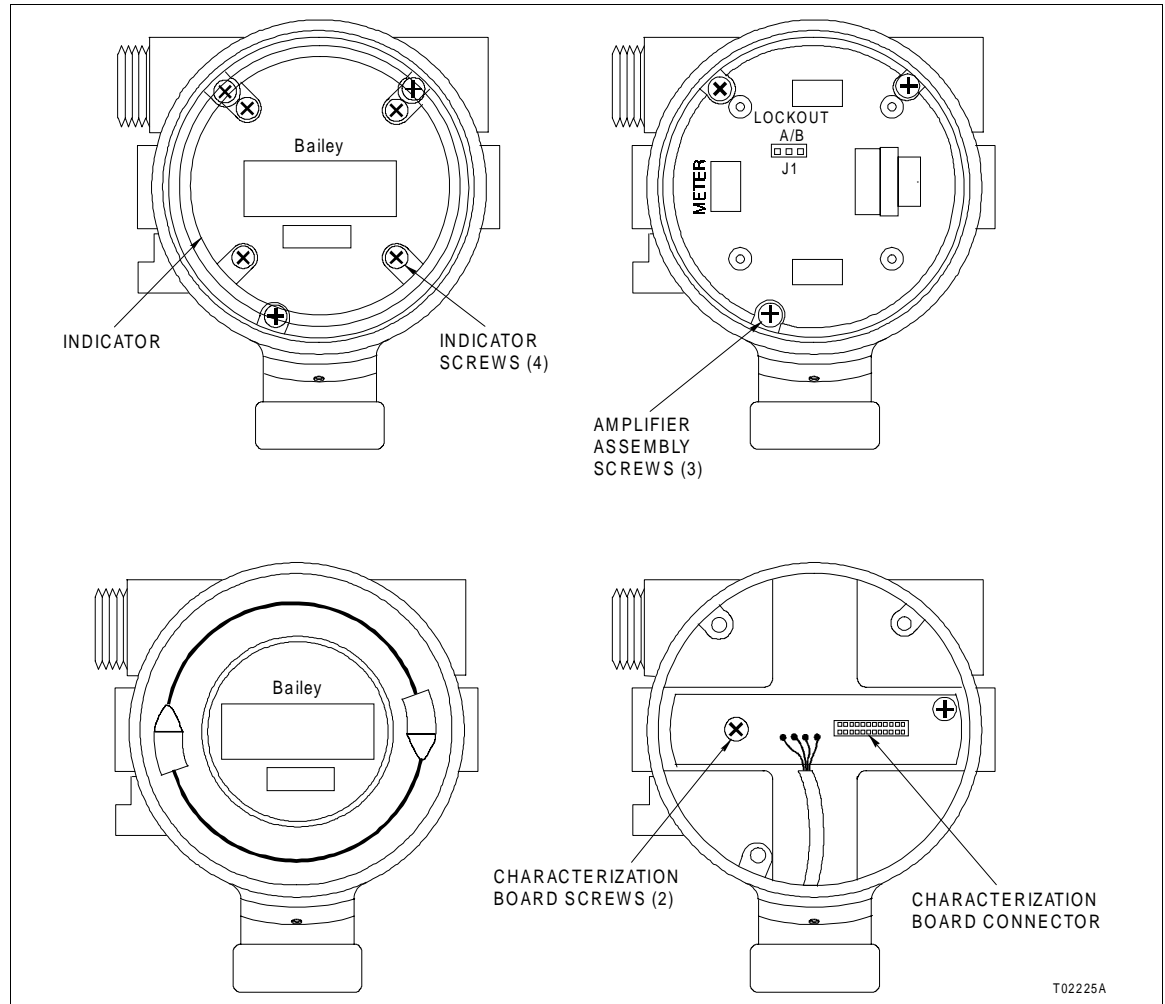

Figure 8-1. Internal Transmitter Components
Use Figures 8-1, 8-2, and 8-3 as visual aids when performing these procedures.
3. Use the Phillips screwdriver to remove the three screws that secure the amplifier assembly to the electronics housing (Fig. 8-1).
4. Gently pull the amplifier assembly out of the electronics housing to unplug it from the characterization board connector (Fig. 8-1).
5. Remove the two screws securing the characterization board to the electronics housing (Fig. 8-1).
11. Mount the characterization board to the electronics housing and install the two screws (Fig. 8-1).
3. Remove the four screws that secure the indicator to the amplifier assembly (Fig. 8-1).